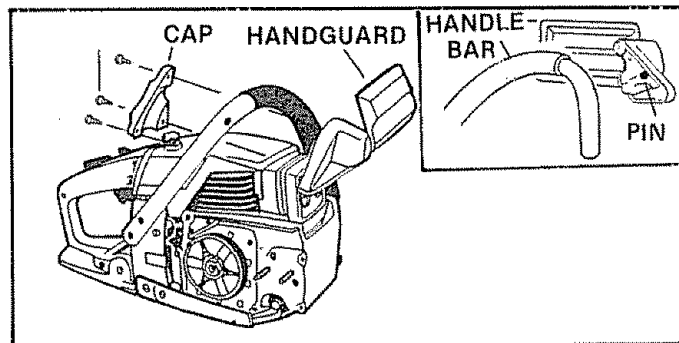

Figure 1
1. Align the Handguard and Handguard Cap around the handlebar as shown in Figure 1.
2. Fit the mounting pin on the Handguard into the hole in the handlebar Figure 1.